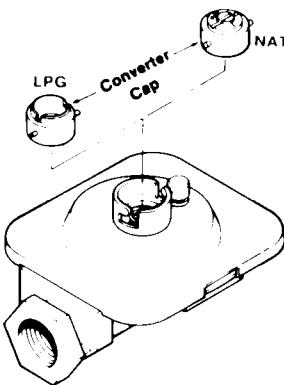

FIGURE 12
1. Remove the cap, push down and turn counter-clockwise. Turn the cap over and reinstall (figure 12).
- a. Change the appliance pressure regulator from natural to LP setting. (See figure 12, 13 or 14).
- a. Change the appliance pressure regulator from LP to natural setting. (See figure 12, 13 or 14).